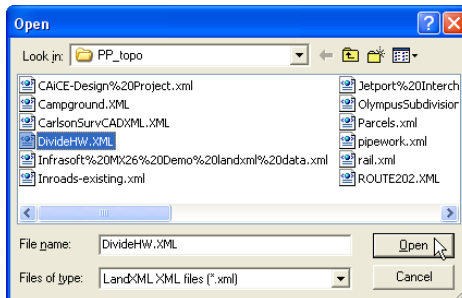

Figure 6-3. Open LandXML File
2. On the *Open* dialog box, navigate to the location of the desired file, select it, and click **Open** (Figure 6-3).